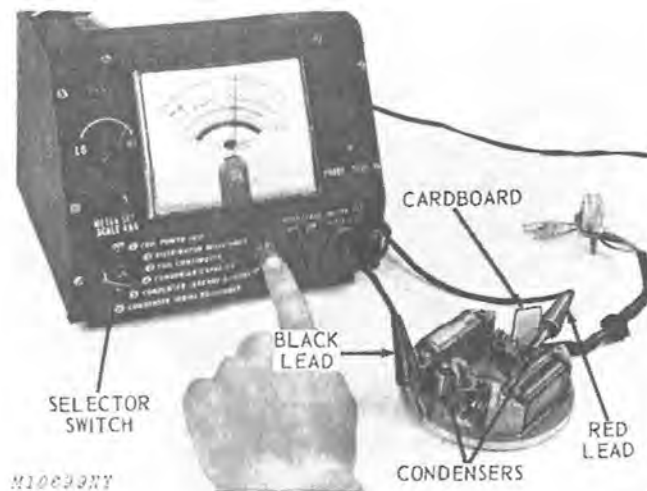

Fig. 20-Condenser Capacity Test
1. Place a piece of cardboard between breaker points and unsolder ignition generating coil lead from condenser terminal, Fig. 20.
3. Connect the red test lead to the condenser terminal and connect black test lead to stator plate, Fig. 20.